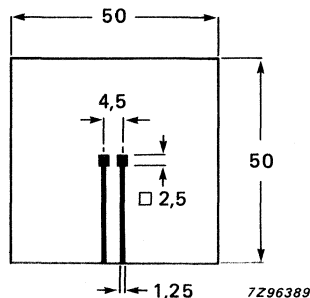

Fig. 2 Mounted on a p.c. board.
2. Thermal resistance from junction to ambient; device mounted on an 1,5 mm thick epoxy-glass p.c. board; Cu-thickness $\geq 40\text{ }\mu\text{m}$ (see Fig. 2)